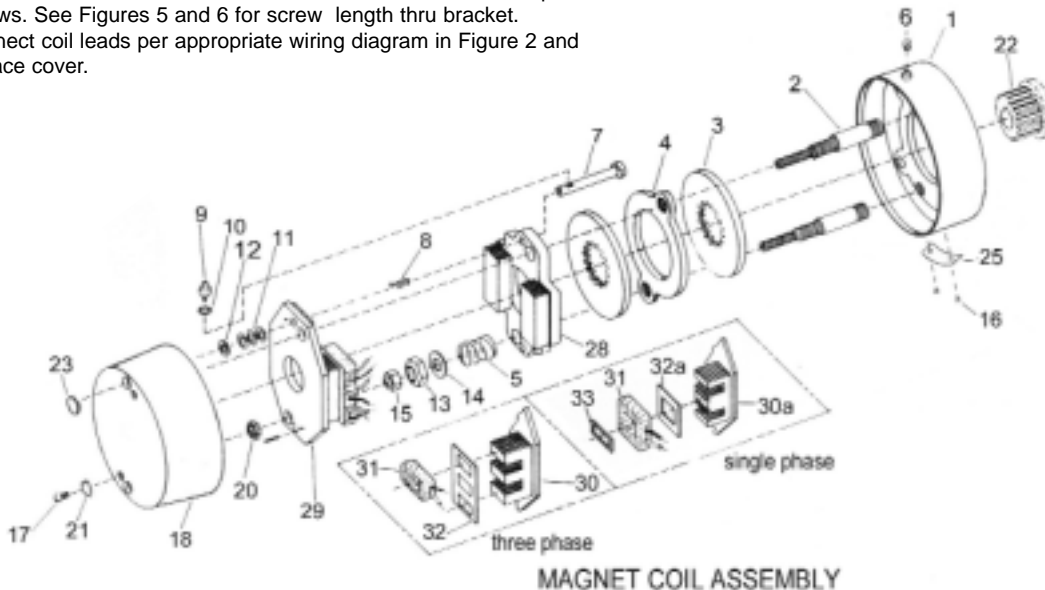

Figure 3. Exploded View of Brake
(See Figures 3 & 5, Tables 1 & 2)
(See Figures 3 & 5)
(See Figures 3 & 5, Table 2)
(See Figure 3)
When assembling a standard manual release mechanism (Figure 3), add only enough shim washers (11) to obtain proper release action. Too many shim washers will prevent automatic reset when electrical power is applied. Too few washers will prevent the motor shaft from turning freely. Replace stop screws (9). Wind each torsion spring (8) approximately 1/4 turn and hook spring loop over pin.
(See Figures 3 & 4)